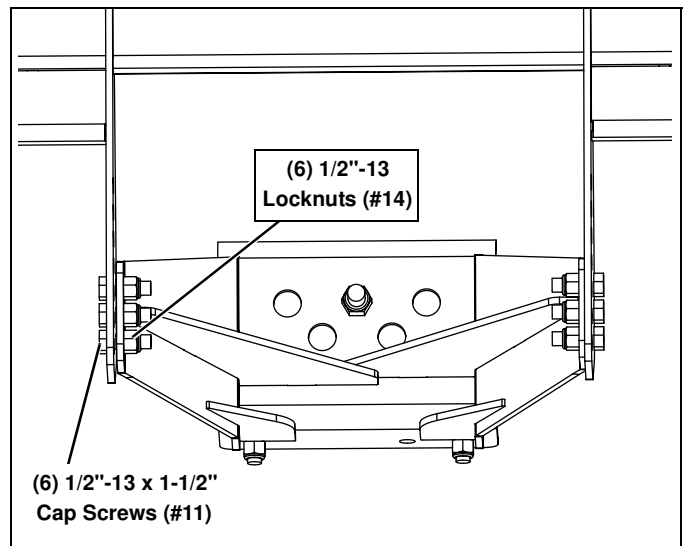

Figure 10
11. Secure the Front Mount and Cross Member Weldments (#2 & 3) together with (6) 1/2"-13 x 1-1/2" Cap Screws (#11) and (6) 1/2"-13 Locknuts (#14). (See Figure 10.)